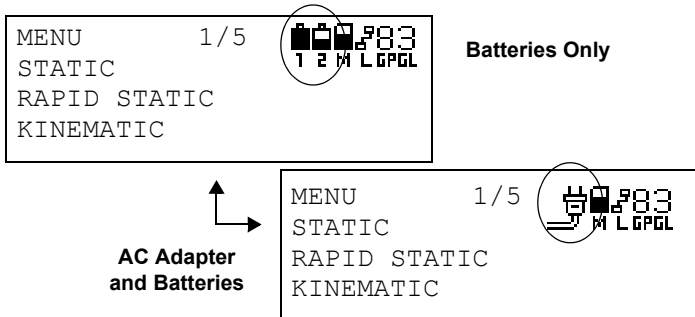

Figure 2-4. Display – Charging Status with GB-1000 Turned On
- If the AC adaptor is connected when the power is on, charging-on-the-run will begin immediately. Check the status icon to confirm the charging status (Figure 2-4 on page 2-5).